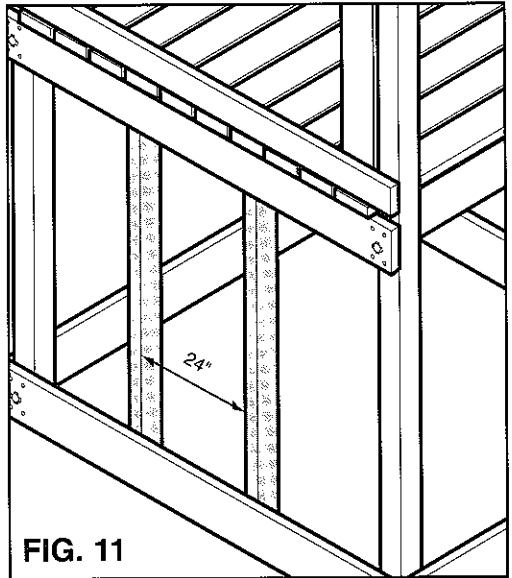

FIG. 11
2. Position two 2" x 4" x 45-1/2" boards to the unit as indicated in Fig. 11. **NOTE:** Center the boards in the opening created by removing the rails. The **INSIDE** distance between these boards should be approximately 24".